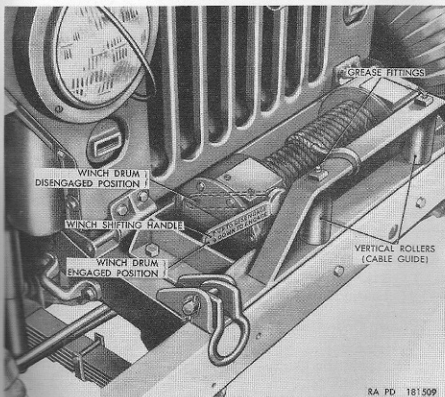
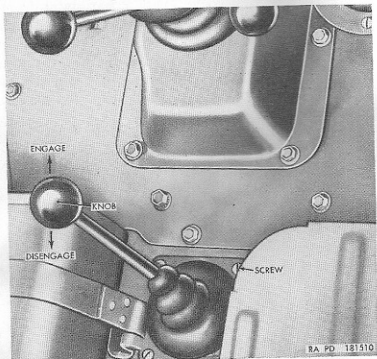

Figure 11. Winch installed.
Figure 12. Power-take-off gearshift control lever.
a. *Description.* The winch (fig. 11) is a horizontal drum-type unit mounted on the front of the vehicle, between the vehicle frame side members, forward of the radiator guard. Power for the winch is supplied by a power-take-off unit attached to the left rear of the transfer. The unit is connected to the winch by a long and a short propeller shaft. The propeller shafts are supported by a center bearing attached to the bell housing.
- (1) *Power-take-off gearshift control lever.* The power-take-off gearshift control lever (fig. 12 and HH, fig. 7) is located in the driver's compartment at the rear of the transmission gearshift lever.
- (2) *Winch shifting handle.* The winch shifting handle (fig. 11) is attached to the front of the winch drum clutch housing at the right of the winch drum.
- (3) Position the transfer front wheel drive gearshift lever (T, fig. 7) in OUT position. Place the transfer high and low range gearshift lever (S, fig. 7) in "N" (neutral) position (fig. 4). With the winch shifting handle (fig. 11) in the disengaged position, the winch drum is disengaged from the winch power train. In this position, the winch cable can be unwound from the drum by pulling on the cable. Unwind sufficient cable and attach to object to be winched. Move the winch shifting handle to engaged position (fig. 11). Depress the clutch pedal (EE, fig. 7) and push the power-take-off gearshift control lever (fig. 12) toward the front of the vehicle into engaged position. Shift the transmission gearshift lever (V, fig. 7) into "1" (first) gear position (fig. 4). Release the clutch pedal slowly, with the engine idling, and wind slack cable on winch drum. When winch cable is tight, accelerate engine to prevent stalling while load is being winched. To release tension and unwind winch cable, depress the clutch pedal, shift the transmission gearshift lever into reverse gear and, with the engine idling, release the clutch.
Caution: Do not release cable tension by using the winch shifting handle (fig. 11) disengaging drum.
- (1) Pull the winch shifting handle (fig. 11) up to disengage the winch drum, unwind the cable from drum and attach cable to stationary object. Shift the winch shifting handle to engaged position.
- (2) Start the engine (par. 43).
- (4) Depress the clutch pedal (EE, fig. 7) and push the power-take-off gearshift control lever (fig. 12) toward the front of the vehicle engaging the power-take-off. Shift the transmission gearshift lever (V, fig. 7) into "1" (first) gear position (fig. 4). Release the clutch pedal slowly and accelerate the engine to prevent stalling while vehicle is moving and winch is operating. After vehicle has been winched out, stop the vehicle by depressing clutch pedal and placing transmission gearshift lever in "N" (neutral) position. Place the transfer front wheel drive gearshift lever in the OUT position and the transfer high and low range gearshift lever in the "N" (neutral) position (fig. 4). To release the tension on the cable, de-
Caution: Do not release the cable tension using the winch shifting handle (fig. 11).
- (3) Push the winch shifting handle (fig. 11) down to engage the winch drum.
- (4) Push the power-take-off gearshift control lever (fig. 12) to the front or engaged position.